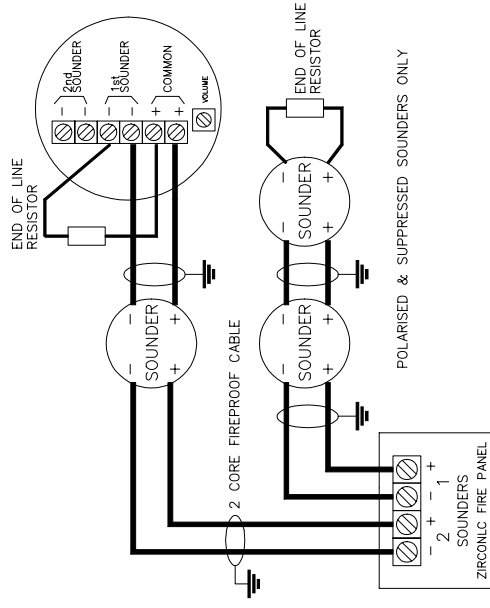

Figure 3 - DETECTOR CIRCUIT
- 3.2 Connect the zone wiring, one zone at a time, transferring either the End Of Line Resistor or Active End Of Line Device (ZF19), if removable smoke/heat detectors are being employed. The ZF19 devices are polarised and should be connected with Red/Orange wire to the +ve and Black to the -ve. See Figure 3 & 6 for typical application.